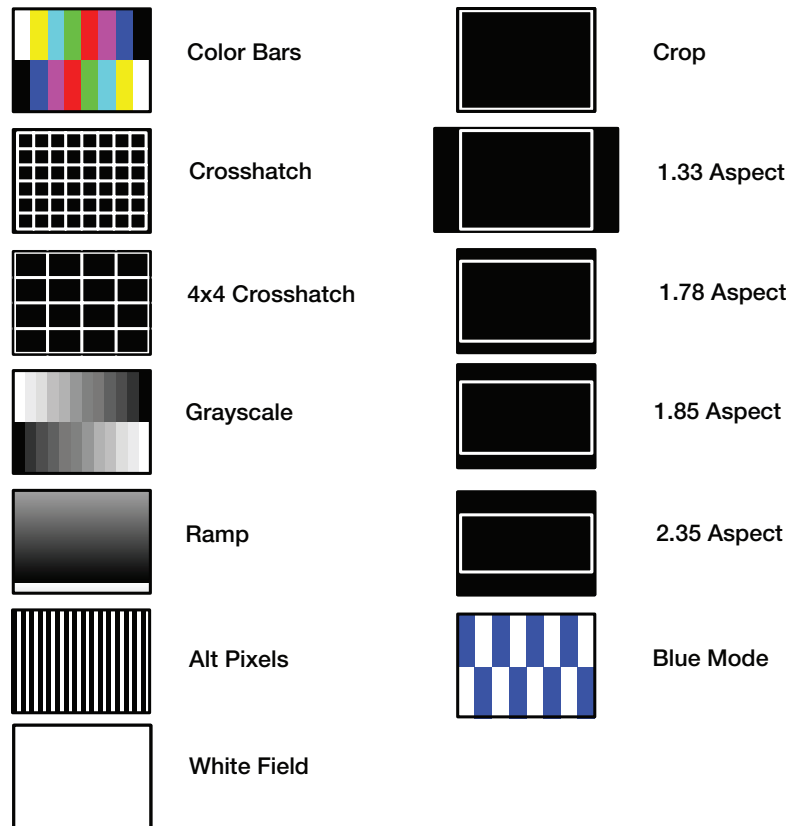

Figure 39. Test Patterns on the DVS 510
- **Test Pattern** — Select a test pattern to assist you in adjusting the display device for color, convergence, focus, resolution, contrast, grayscale, and aspect ratio. **Figure 39** on the next page shows the test patterns that are available.